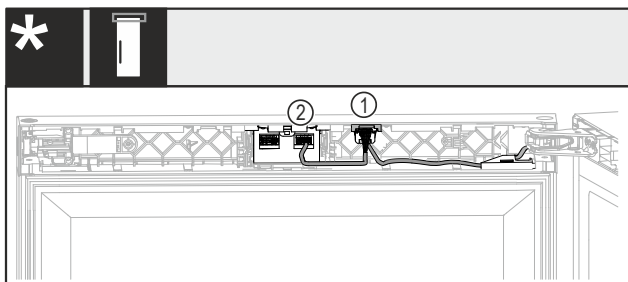

Fig. 46 Without lock or with mechanical lock*
- Insert the plug with both cables Fig. 46 (1) into the guide.*
- Engage the plug with a cable Fig. 46 (2) in the right-hand retaining clip.*